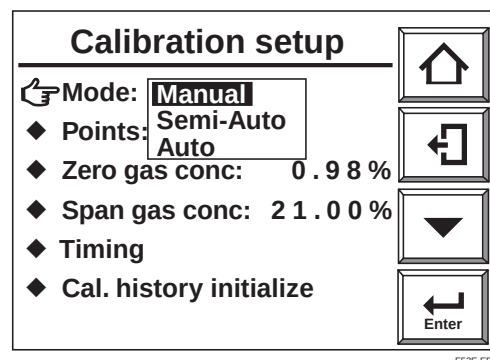

Fig 9.4 Calibration mode setting.
- 2) From the [Maintenance] display, select [Calibration setup] then [Mode] and you can select Manual, Semi-Auto, or Auto in the selection pulldown that appears. (Fig. 9.4).